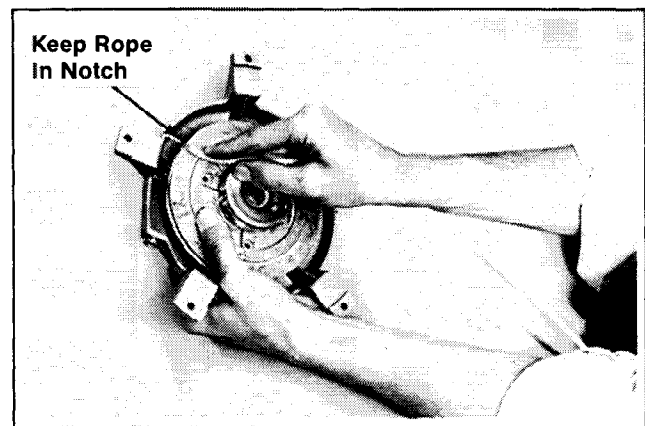

Figure 7-22. Tensioning Spring.
14. Rotate the pulley counterclockwise (when viewed from the pawl side of pulley) until the spring is tight. (Approximately 4 full turns of pulley.) Make sure the fully extended rope is held in the notch in pulley to prevent interference with the housing leg reinforcements. Refer to Figure 7-22.